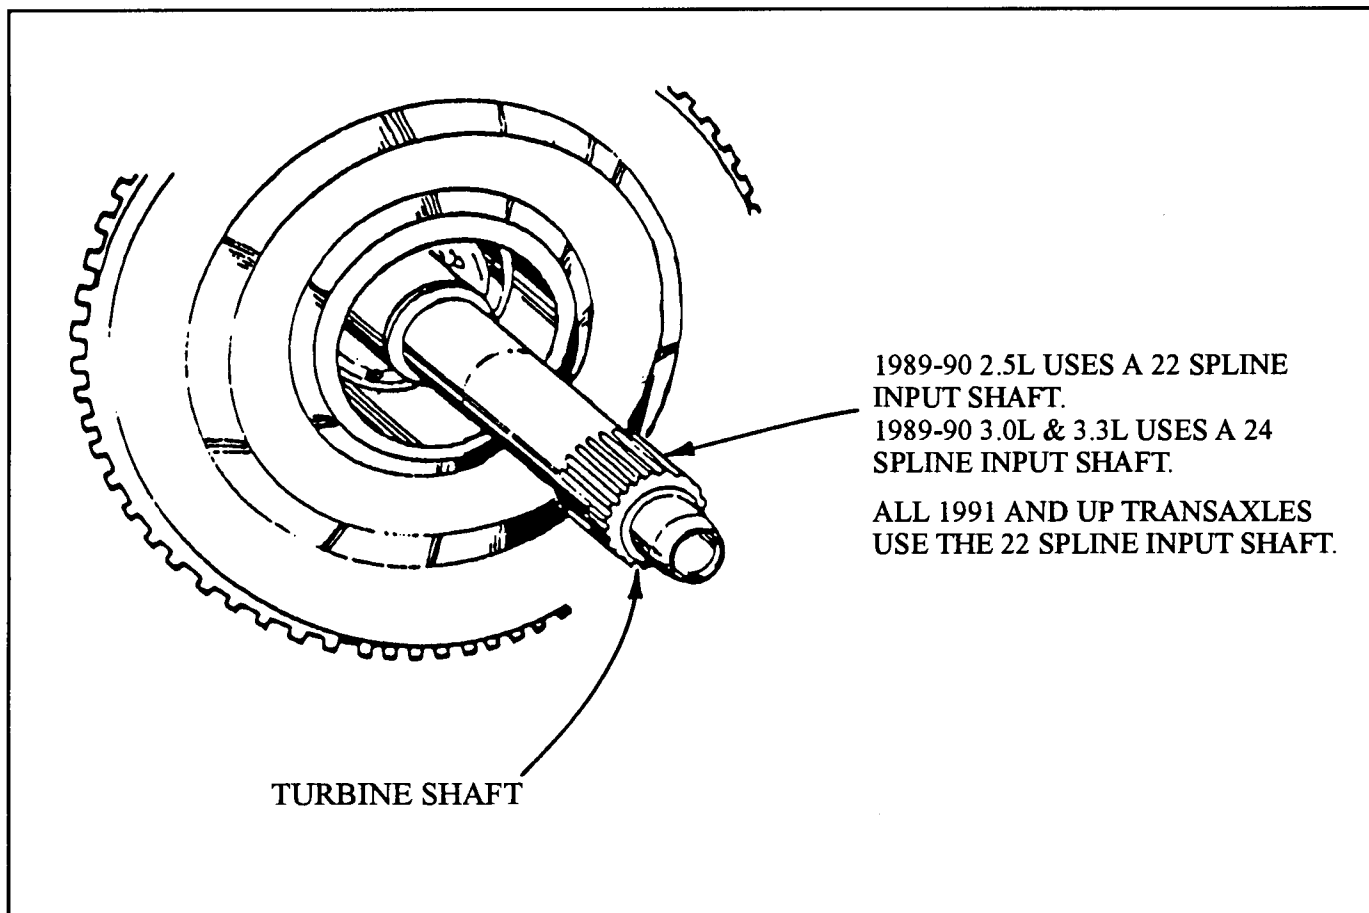

Figure 14
- (2) **TURBINE SHAFT SPLINES** - 1989-1990 2.5 Litre engine uses a turbine shaft with 22 splines for the torque converter, and the 1989-1990 3.0 and 3.3 Litre engines will use the a 24 spline turbine shaft (See Figure 14).
NOTE: All 1991 and up A604 transaxles will use a 22 spline input shaft to fit a new torque converter with a torsional vibration damper (See Figure 14).